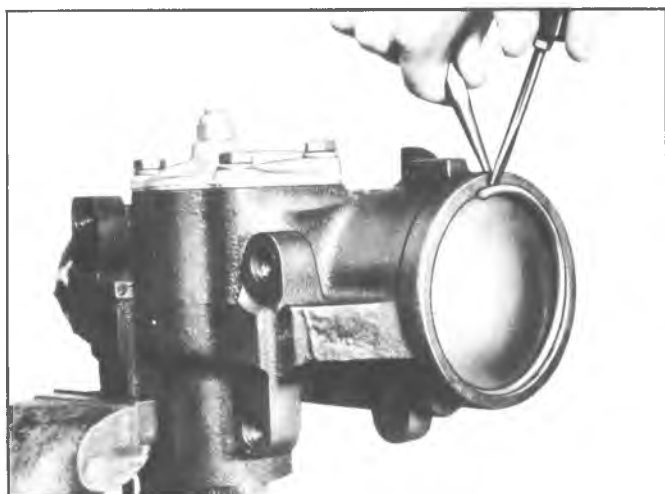

Fig. 32--Removing End Cover Retaining Ring
1. Rotate end cover retainer ring so that one end of the ring is over the hole in the side of the housing. Force the end of the ring from its groove and remove ring (fig. 32).